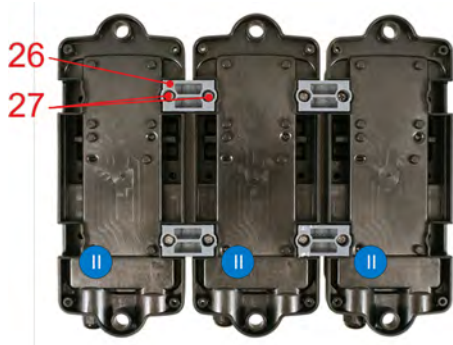

Fig. 6: Wall mounting
2. ➤ Line up back cover modules (Fig. 6, pos. II) side by side and screw together with U-connectors (pos. 26) (4 x screws, pos. 27 enclosed, tightening torque = 1.5 Nm).